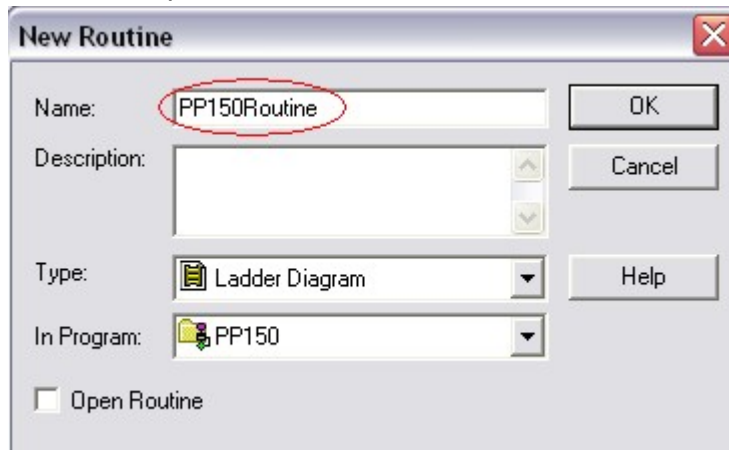

FIGURE 10.11
M. ENTER THE NAME OF THE NEW ROUTINE AS PP150ROUTINE (SEE EXAMPLE BELOW...FIGURE 10.11)